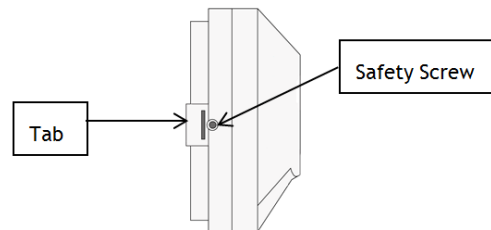

Figure 13: EcoSource Side View
- Step 4 Remove the safety screw from the left side of the thermostat using the hex wrench. See Figure 13.